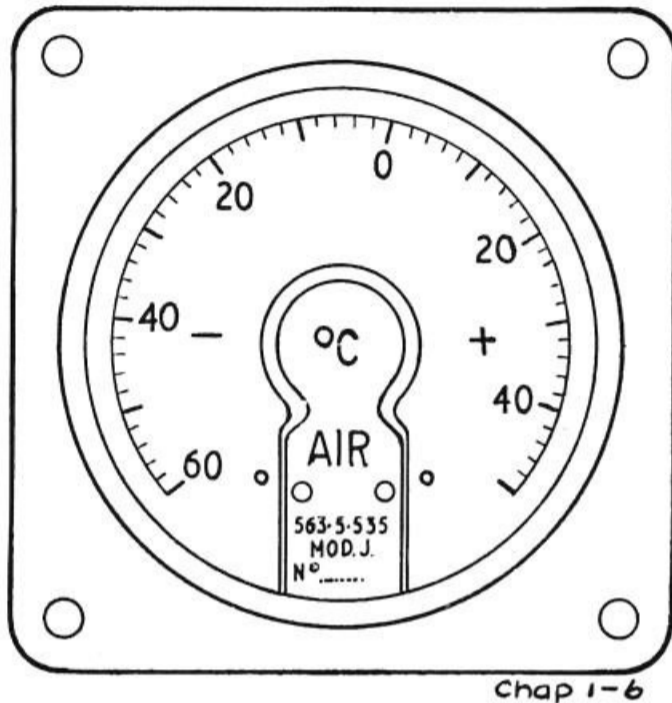

Fig. 1. Indicator, Type S63.5.535
1. This indicator (Ref. No. 6A/7117) (fig. 1) is calibrated in degrees C from -60 to +50; the indicator is controlled by variation of temperature in a resistance bulb which obeys a platinum law.